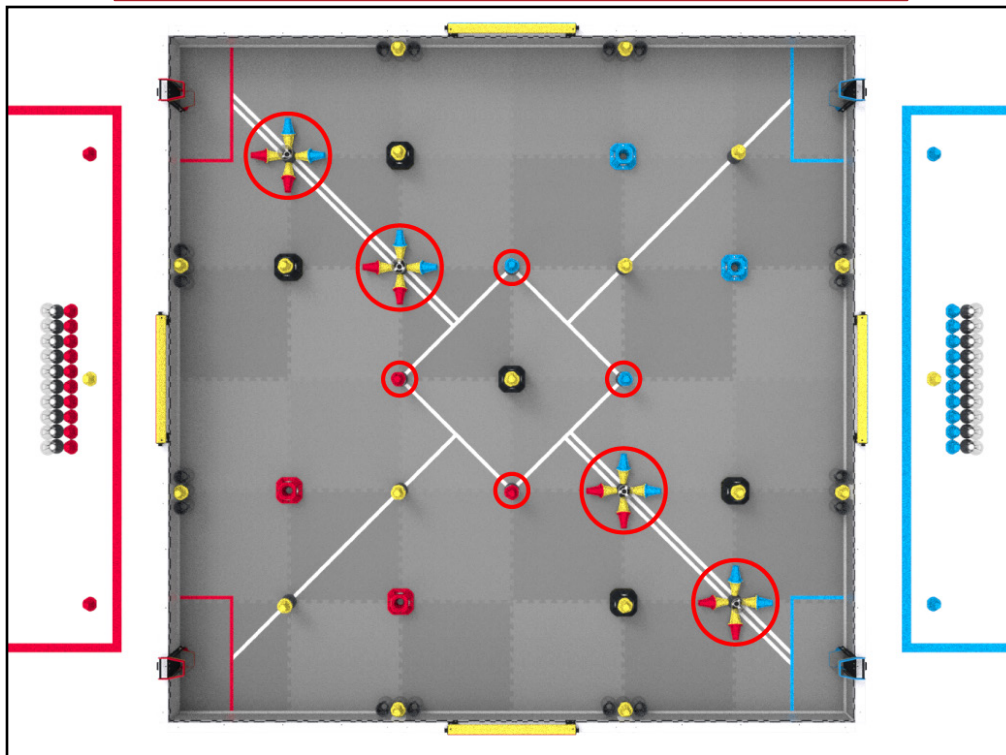

Figure SG-7: These Scoring Objects (circled in red) would be considered to be on the Autonomous Line.
- b. *Scoring Objects* that begin the *Match* in contact with the *Autonomous Line* are not considered to be on either side, and may be utilized by either *Alliance* during the *Autonomous Period*. For the purpose of this rule, all 20 *Scoring Objects* that begin the *Match* on or at the *Autonomous Line* are considered to be in contact with the *Autonomous Line*. See Figure SG-7.